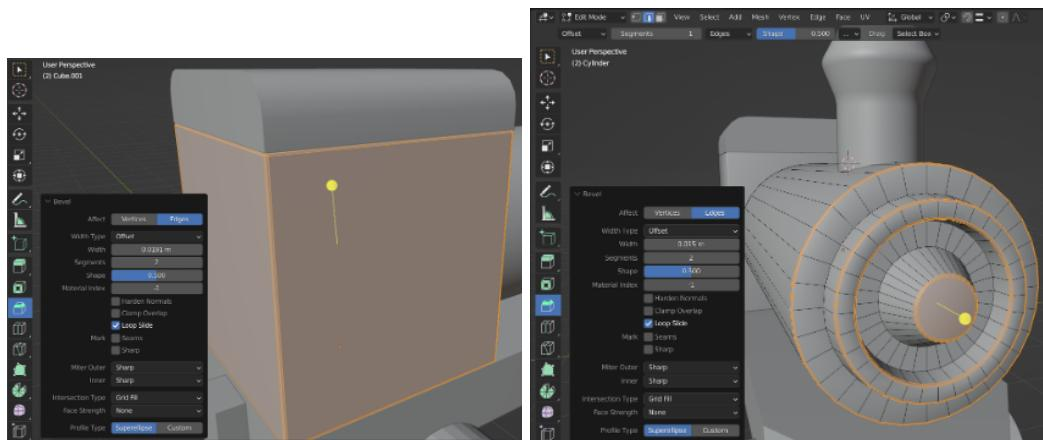

Figure 1.31: Beveling the selected edges.
9. Bevel other edges of the loco, e.g. on all edges of the train cabin, rims of the front of the train or wheels (see Fig.1.31).